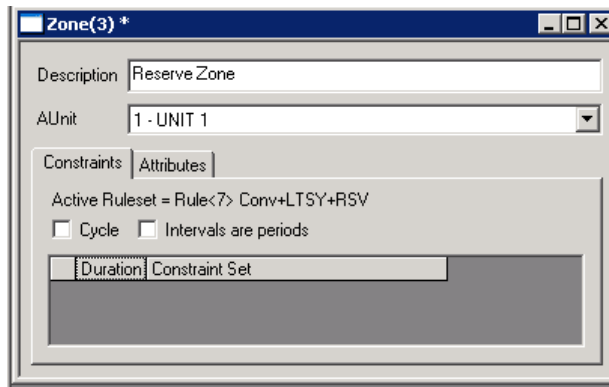

Figure 25: Creating a new Zone
- 3.2.1 Create a new *Zone*, select: *File, New, Zone, OK*. This will bring up the *New Zone* window (Figure 25).